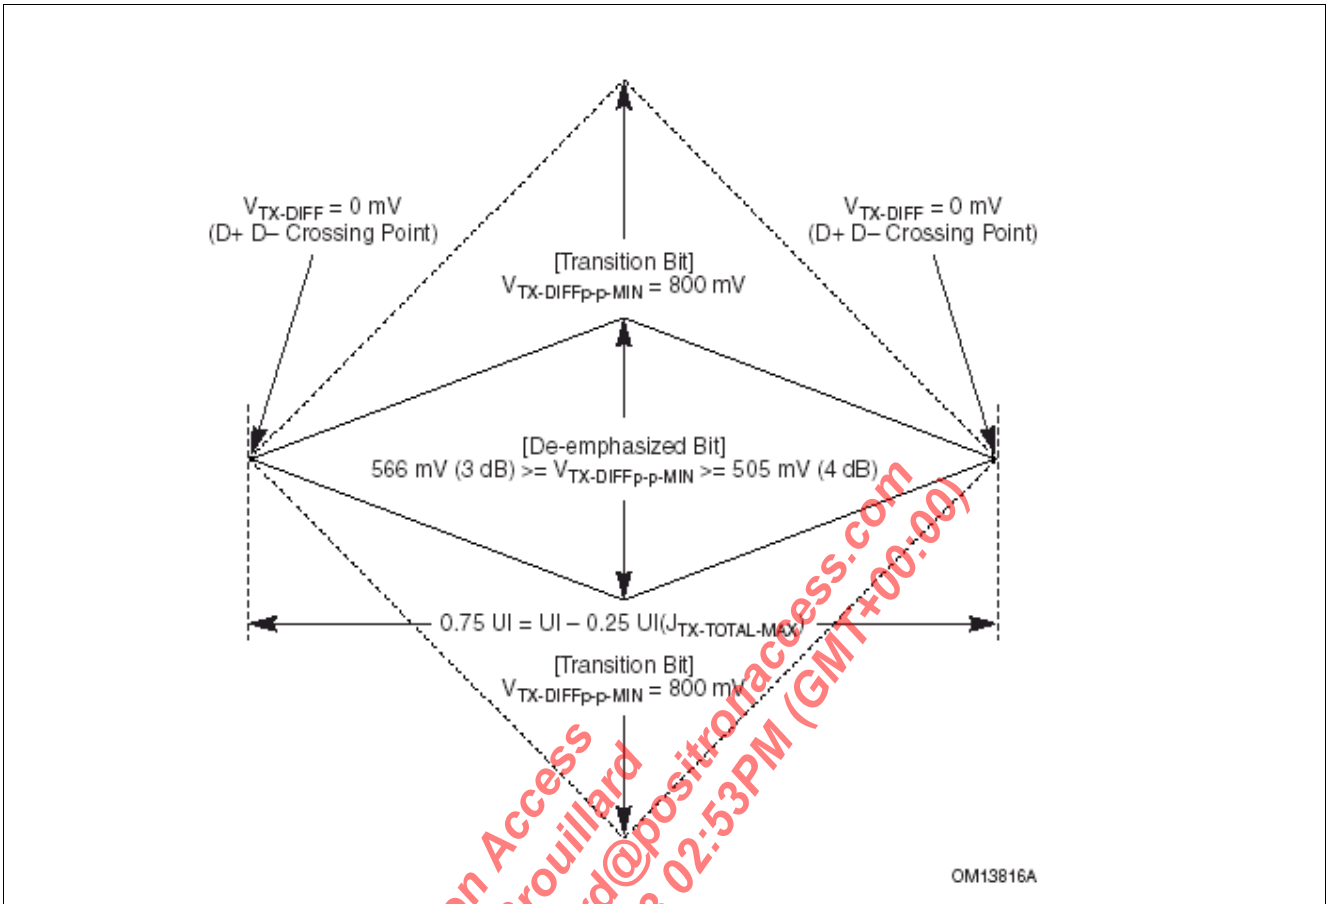
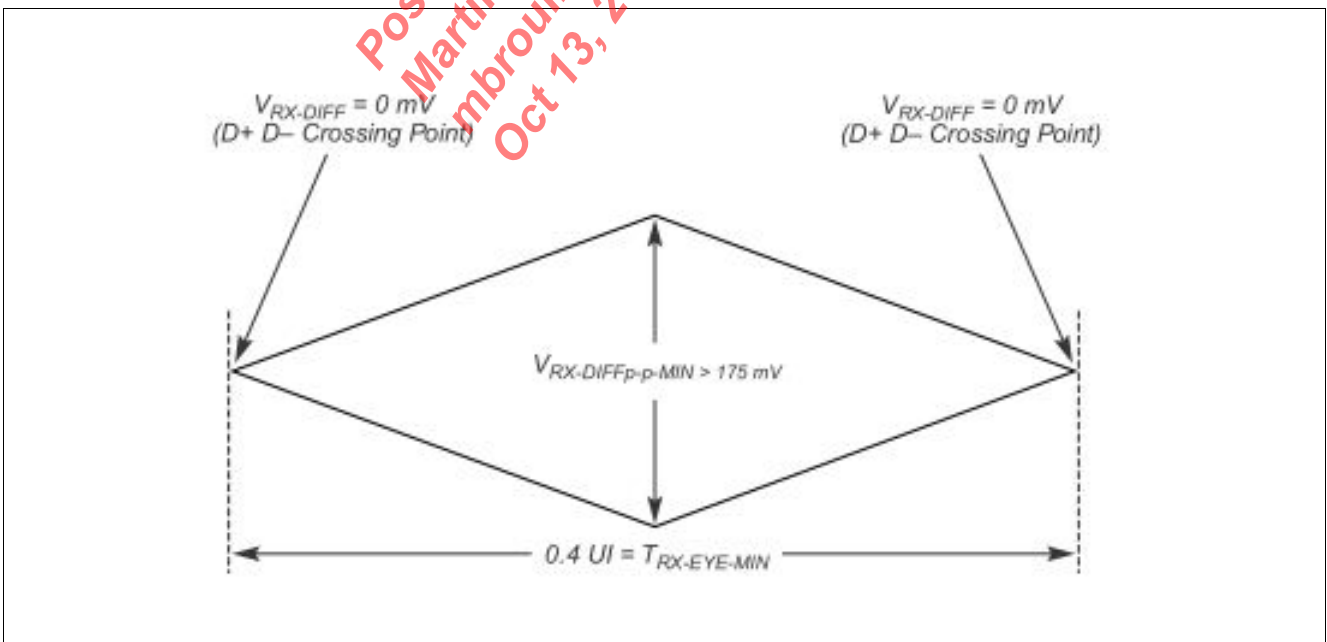

Figure 99 PCIe v1.1 Eye Diagram Compliance (at Tx Ball)
Figure 100 PCIe v1.1 Eye Diagram Compliance (at Rx Ball)
- 2) Specified at the measurement point and measured using the clock recovery function. The test load in Figure 99 must be used as the Rx device when taking measurements (also refer to the receiver compliance eye diagram shown in Figure 100). When the clocks to the Rx and Tx are not derived from the same reference clock, the TX UI recovered using the clock recovery function must be used as a reference for the eye diagram.